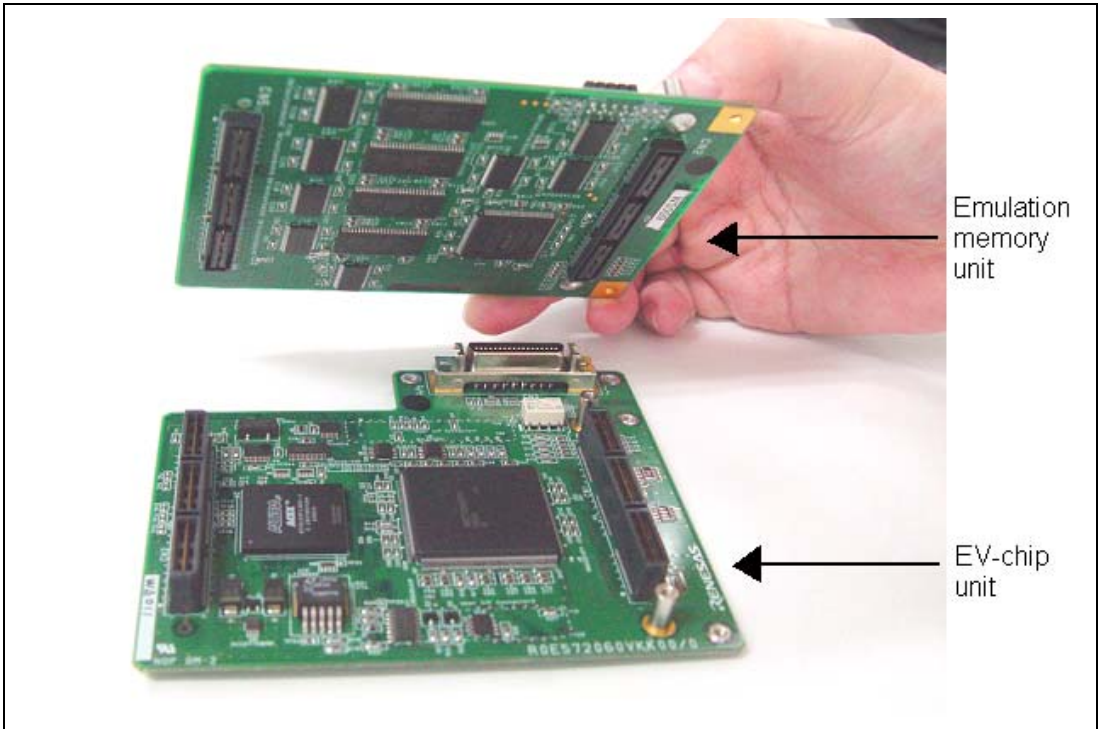

Figure 2.15 Connecting the Emulation Memory Unit to the EV-chip Unit
- When the emulation memory unit is used with the EV-chip unit, connect the emulation memory unit to the EV-chip unit (figure 2.15).